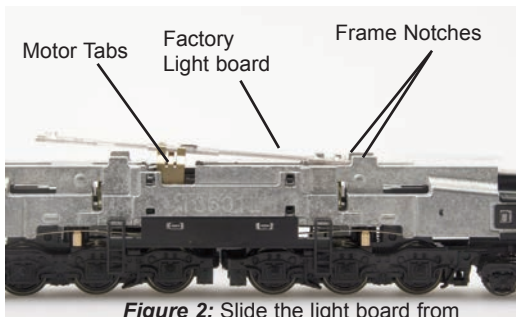

Figure 2: Slide the light board from under frame notches to remove light board
2. Carefully remove the factory light board by sliding it toward the back of the locomotive and out from under the forward frame notches. Then gently lift the board out of the frame. Be careful not to bend or damage the motor tabs. Figure 2.